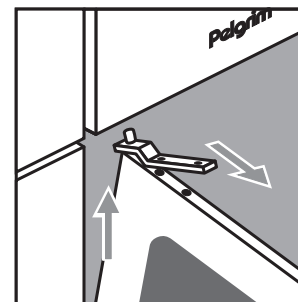

Fig. 8a
- Remove the upper hinge by removing the two screws. Lift the door from the lower hinge (see Figure 8a).